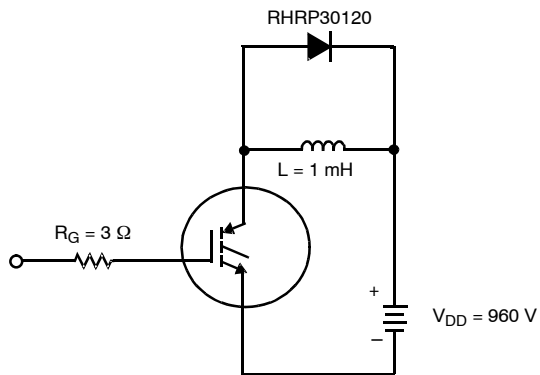

Figure 18. INDUCTIVE SWITCHING TEST CIRCUIT
- Values for two Turn-On loss conditions are shown for the convenience of the circuit designer. E_{ON1} is the turn-on loss of the IGBT only. E_{ON2} is the turn-on loss when a typical diode is used in the test circuit and the diode is at the same T_J as the IGBT. The diode type is specified in Figure 18.